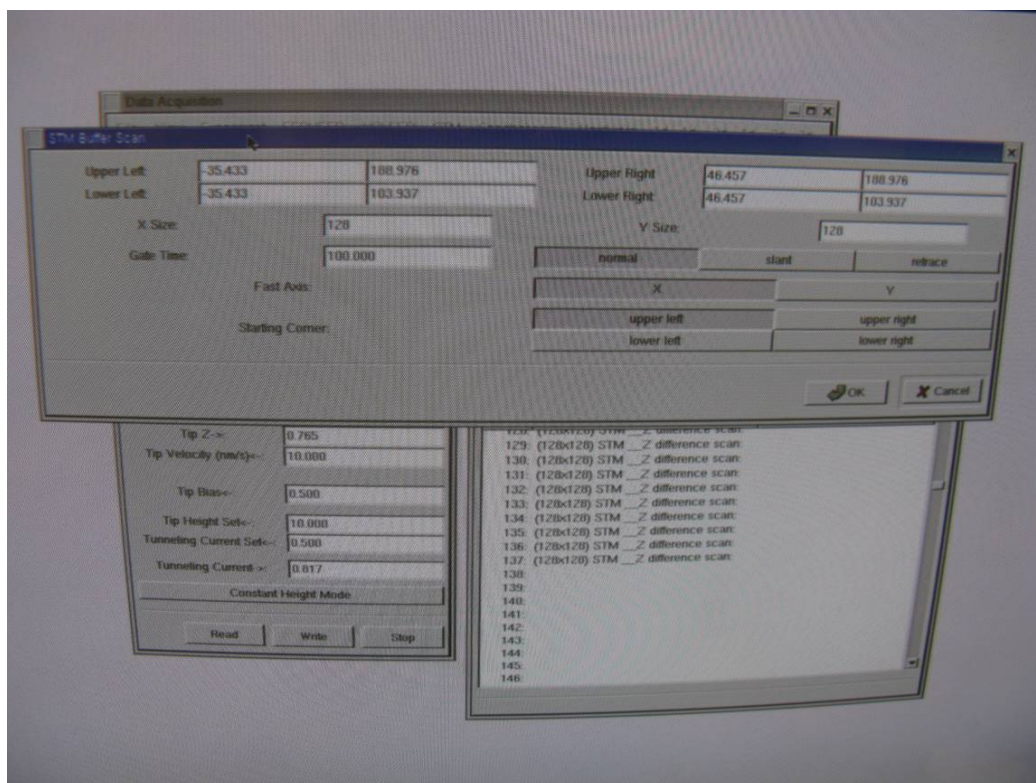

Figure 3.5 The 'STM Buffer Scan' window.
16. Choose 'STM' -> 'Buffer Scan' in the menu (Fig. 3.5) to start scanning and save the image into the buffer of the computer memory. After the previous step, most of the parameter should be ready. (You can also choose an area from an existing image. See 20.) Switch from 'normal' to 'retrace' if you need to generate two separate images corresponding to the two directions in which the tip scans. Choose the 'Starting Corner' between one of the four corners depending on the position of the tip right now. Press 'OK'.